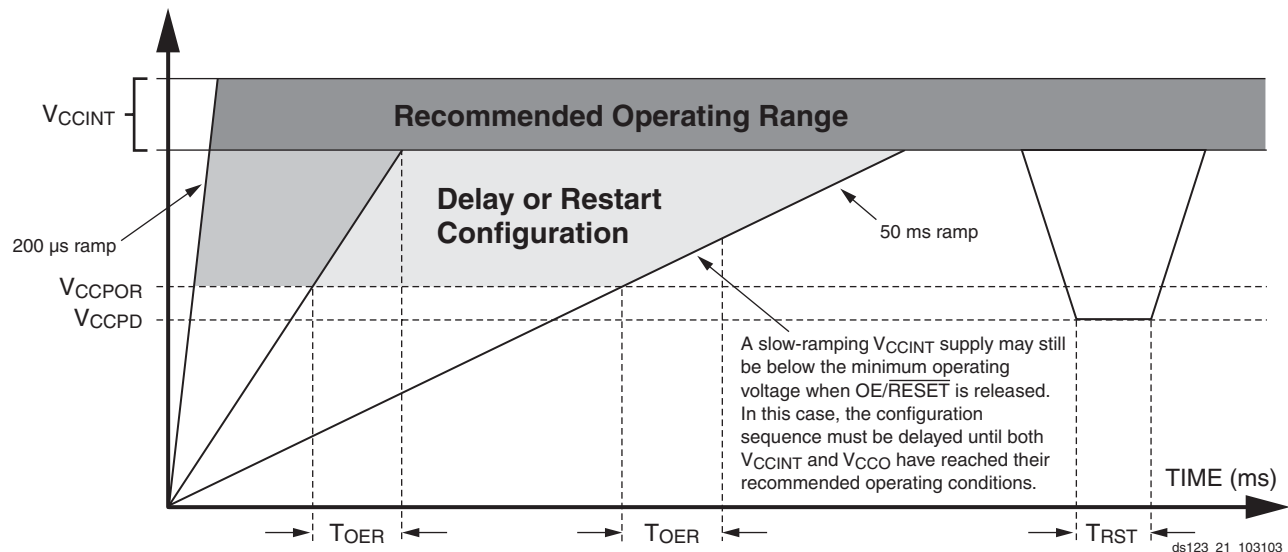

Figure 6: Platform Flash PROM Power-Up Requirements
below the power-down threshold ( $V_{CCPD}$ ), the PROM resets and  $\overline{OE}/\overline{RESET}$  is again held Low until the after the POR threshold is reached.  $\overline{OE}/\overline{RESET}$  polarity is not programmable. These power-up requirements are shown graphically in Figure 6.
- At power up, the device requires the  $V_{CCINT}$  power supply to monotonically rise to the nominal operating voltage within the specified  $T_{VCC}$  rise time. If the power supply cannot meet this requirement, then the device might not perform power-on-reset properly. See Figure 6, page 11.